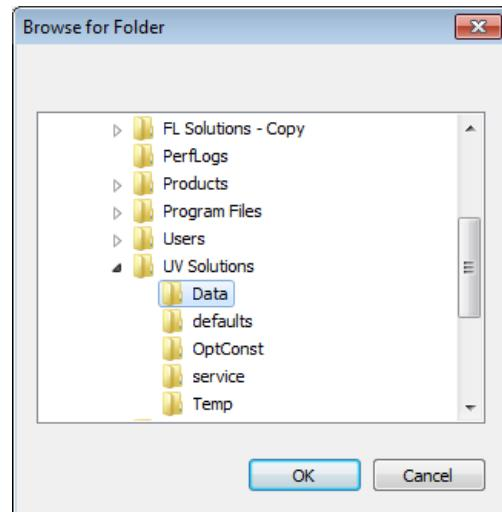

Fig. 2-20 Browse for Folder Dialog Box
- 1) Click the **Browse** button to open the Browse for Folder dialog box as shown in Fig. 2-20. Specify a path for folder creation.